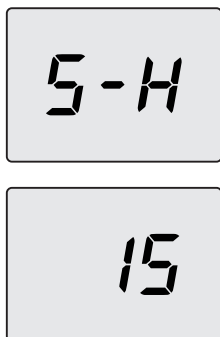

Figure 7.13
- Use key 10 to change this value to **15** and then press key 12 to confirm. **S-H** will appear on the display alternating with the absolute maximum power parameter (Figure 7.13).